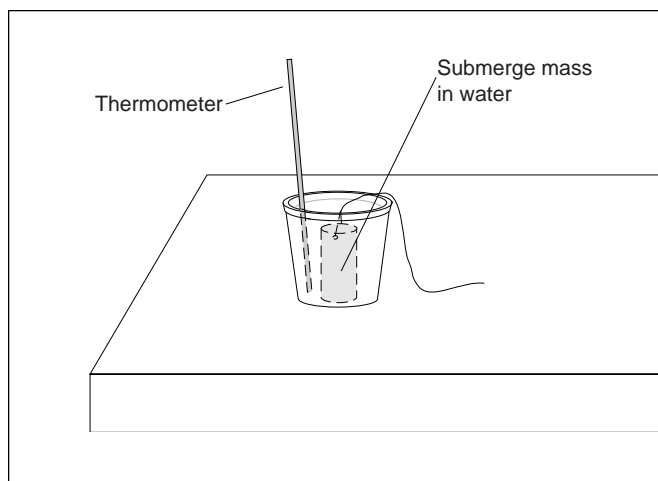

Figure 2: Equilibrium Temperature
2. While waiting, find the mass of a dry styrofoam cup and then prepare a styrofoam cup of cold water (about 3°C below room temperature) into which the heated object can be completely submerged. When the object has finished heating, record the temperature of the cold water to the nearest tenth of a degree, then record the temperature of the boiling water, and quickly transfer the heated object from the hot water to the cold water (See Figure 2). Record in Table 4.1.